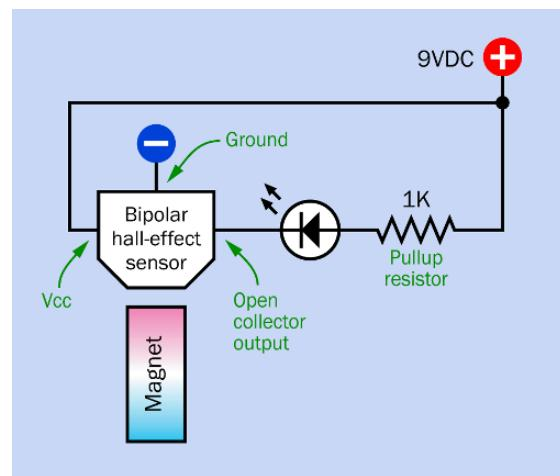

Figure 30-3. A very simple schematic for investigating Hall-effect sensors.
Assemble the schematic shown in Figure 30-3. Note that the sensor has an open-collector output, just like the phototransistor, the electret microphone, and the comparator that you have encountered previously. If you need to remember how this works, see “The Output” on page 36.
- When a pullup resistor is placed between the open-collector output of a Hall sensor and the positive side of the power supply as in Figure 30-3, the output will appear to be low when the sensor is activated and high when it is deactivated.